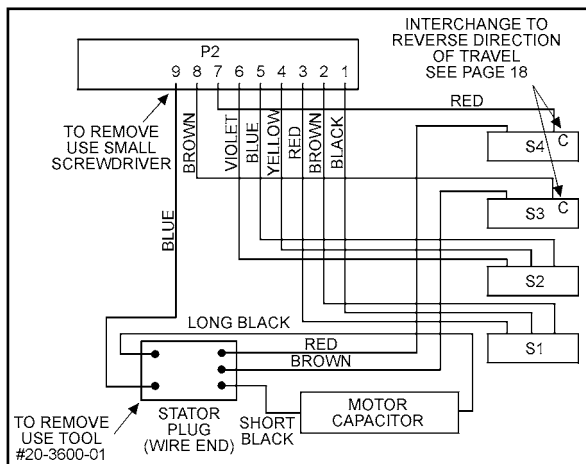

Figure 12
6. Remove the switch to be replaced and disconnect the wires. Before replacing the switch, reconnect the wires. Refer to Figure 12, Option 1 Wiring Diagram, for proper connections.
7. Cut the cable ties holding the motor capacitor to its mounts. Use wire removal tool, Beck part number 20-3600-01, to remove the two capacitor wires from the six position plug. Insert wires from replacement capacitor into the six position plug. Refer to Figure 12, Option 1 Wiring Diagram, for proper wire locations. Place capacitor on mounts and secure with two cable ties.